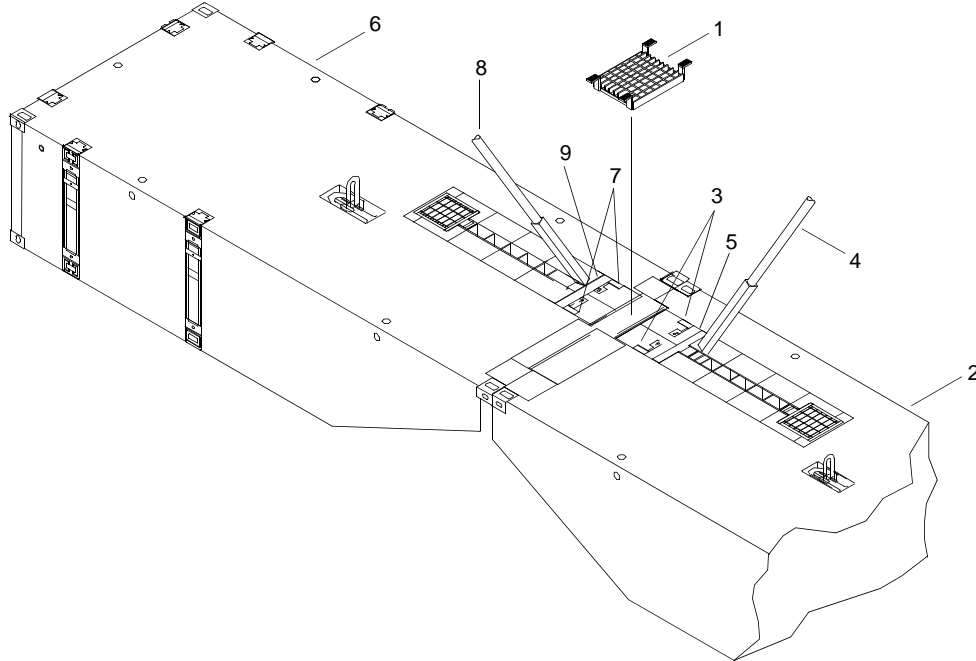

Figure 3. Disconnecting Segments
3. Remove flexor well covers (figure 3, item 1).
4. Rinse flexor well covers (figure 3, item 1) with fresh water and allow to air dry.
5. Stow flexor well covers (figure 3, item 1) in BII container.
6. Release flexor connectors on right end rakes (figure 3, item 2).
- a. Rotate and pull chute bolts (figure 3, item 3) to UNLOCKED position.
- b. Using crowbar (figure 3, item 4), lift guillotine plates (figure 3, item 5) up from flexor connector slots.
7. Stow flexor connectors in left hand rakes (figure 3, item 6).
- a. Rotate and pull chute bolts (figure 3, item 7) to UNLOCKED position.
- b. Using crowbar (figure 3, item 8), lift guillotine plates (figure 3, item 9) up from flexor connector slots.
- c. Using crowbar (figure 3, item 4), move flexor from right end rakes (figure 3, item 2) into left hand rakes (figure 3, item 6) flexor connector pockets.
- d. Align outboard guillotine slot on flexor with slot in left end rake module (figure 3, item 6).
- e. Install guillotine plates (figure 3, item 9) on left end rakes (figure 3, item 6).
- f. Install guillotine plates (figure 3, item 5) on right end rakes (figure 3, item 2).